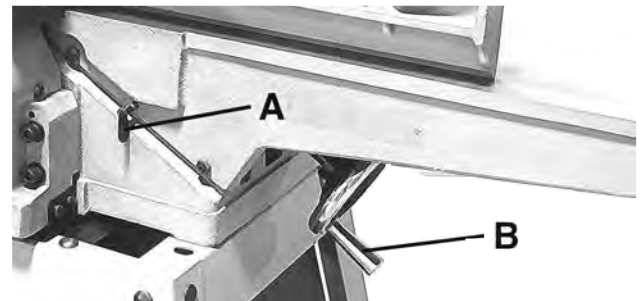

FIGURE 29
For most jointing operations the outfeed table must be exactly level with the knives at their highest point of revolution. This means that the knives must be parallel to the outfeed table and project equally from the cutterhead. To move the outfeed table up or down, loosen lock screw (A) Fig. 29, and turn handwheel (B). When the outfeed table is exactly level with the knives at their highest point of revolution, tighten the lock screw (A).